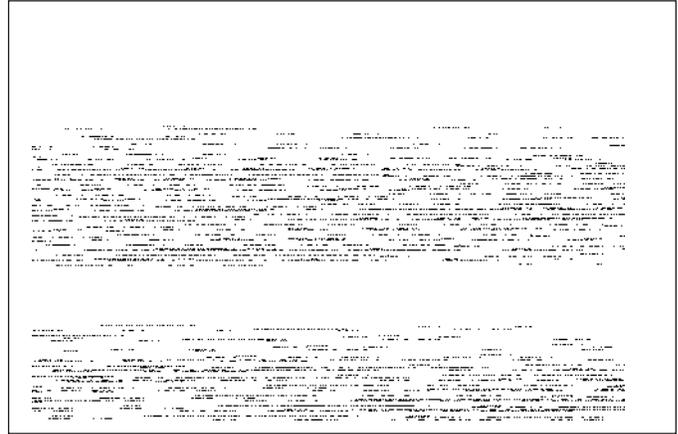

Figure 8. Piping arrangement
A. Packaged water boilers are equipped with a water circulating pump, mounted to return the water into the boiler. For some installations, the pump should be on the supply main. See figure 8.
A. DIAPHRAGM-TYPE COMPRESSION TANKS are used to control system pressure in an AIR ELIMINATING SYSTEM: an automatic air vent is used to REMOVE air from the system water. See figure 8. If system pressure needs further control, add an additional tank or install a larger capacity tank. Locate the tank near the boiler, as illustrated. An automatic air vent should be installed in the top of the boiler or air purger. See figure 8.